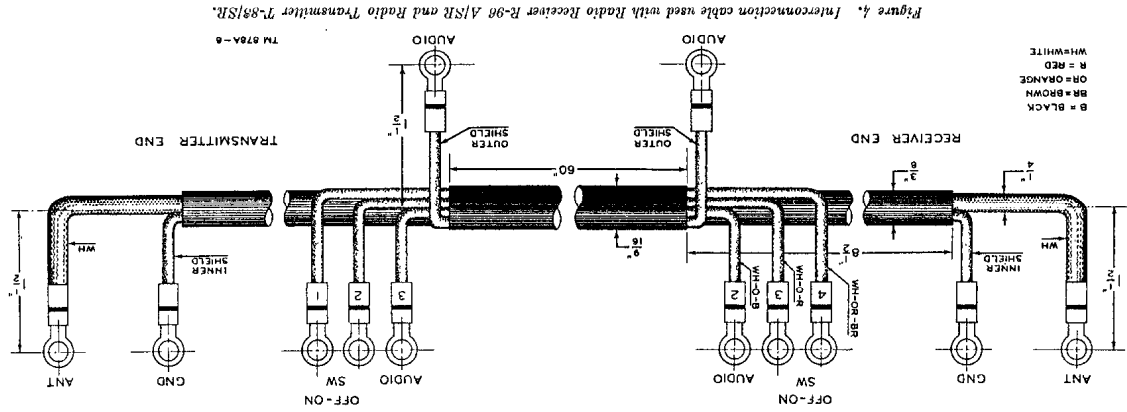
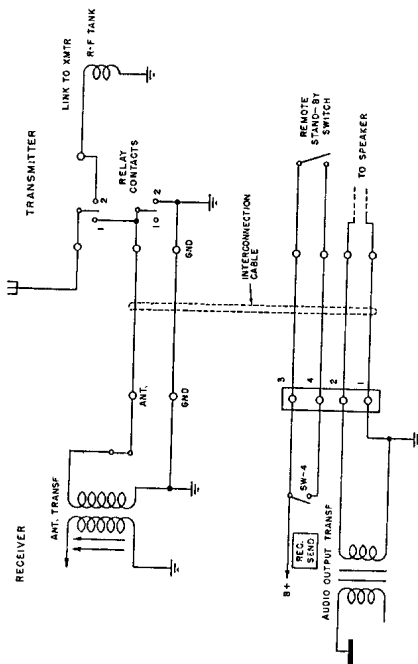

Figure 4. Interconnection cable used with Radio Receiver R-96 A/SR and Radio Transmitter T-83/SR.
Figure 8. Interconnections between Radio Receiver R-96A/SR and Radio Transmitter T-83/SR, schematic diagram.
No additional equipment is required for the operation of this receiver as a single unit, assuming proper power supply leads and antenna connections are available. If the receiver is used in conjunction with Radio Transmitter T-83/SR, a special connecting cable must be used. This cable (fig. 4) is supplied with the transmitter.
c. When the receiver is used in conjunction with Radio Transmitter T-83/SR, an interconnecting cable between the two units, as shown in figures 4 and 8, must be used. This cable is supplied with the transmitter as a part of the spare parts components. It is connected between the receiver and transmitter and grounds the receiver input when the transmitter is in operation. It also allows sidetone operation of the transmitter and provides connections for the use of a remote speaker. Figure 8 is a schematic diagram that illustrates the interconnections between the two units. The cable connections to the receiver are indicated in figures 4 and 8. Make sure that all cable connections are secured firmly to the terminal board and the antenna binding posts.